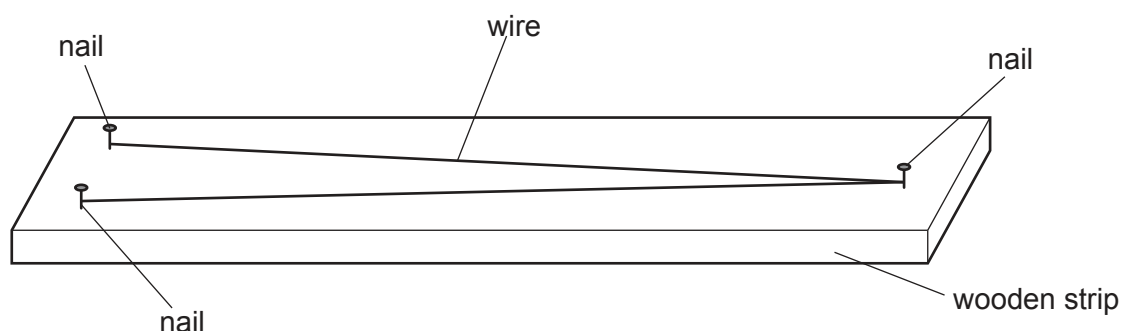

Fig. 1.2 (not to scale)
- 3 Secure the wire to the nails as shown in Fig. 1.2. The wire should lie flat on the wooden strip. Remove any excess wire.